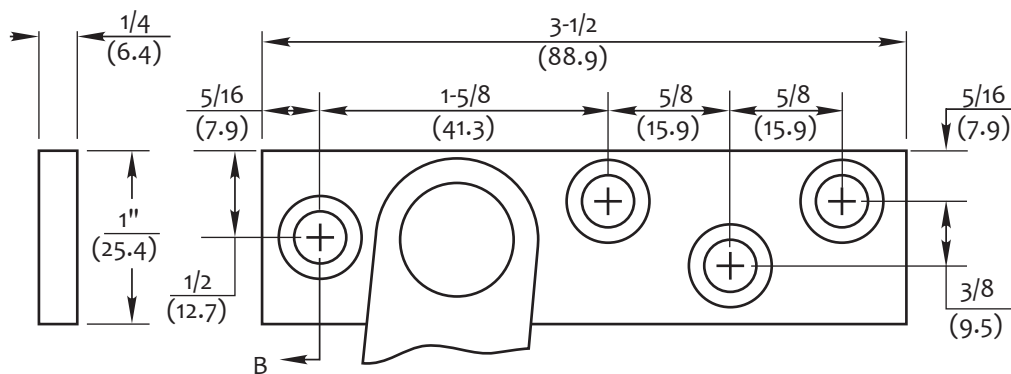

Figure 2 Jamb bracket screw hole dimensions
- Mark jamb bracket position. (Figure 2)
- Mortise 1/4" depth cutout on the door frame for jamb bracket (Figure 2)